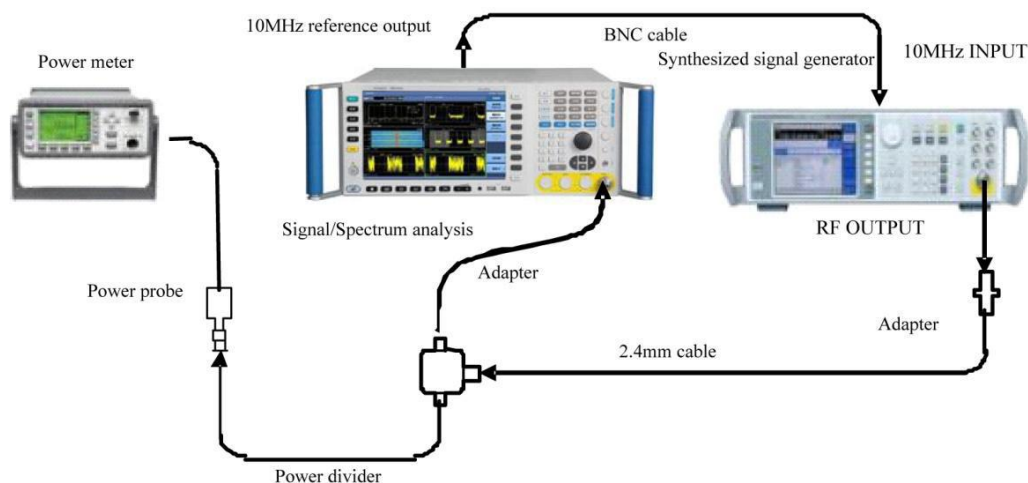

Fig. 8.8 Schematic diagram of frequency response test (50 MHz - 50 GHz)
- 1) Connect the tested instrument as shown in Fig. 8.8.